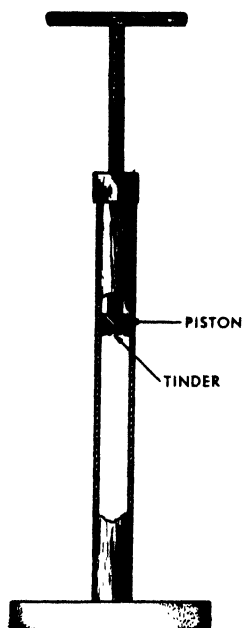

FIG. 245.
3) The fire syringe, Fig. 245, demonstrates in a striking manner the conversion of molecular, kinetic energy, into heat. To use, some dry tinder is placed in the cup at the bottom of the piston. The piston is started gradually into the cylinder and then suddenly and vigorously forced down as far as it will go. When quickly withdrawn, the tinder will be found burning, heat having developed due to the compression of the air in the cylinder.